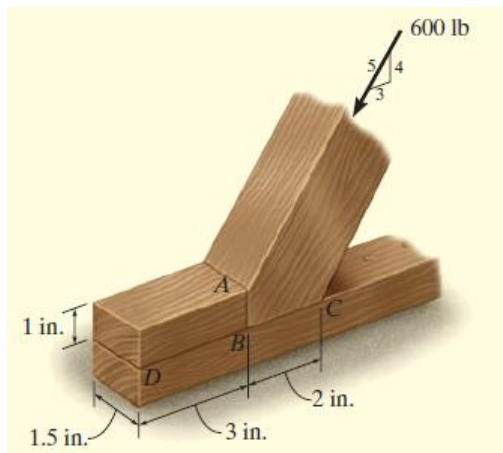

Fig. 4a
4. The inclined member in Fig. 4a is subjected to a compressive force of 600 lb. Determine the average compressive stress along the smooth areas of contact defined by AB and BC, and the average shear stress along the horizontal plane defined by DB.